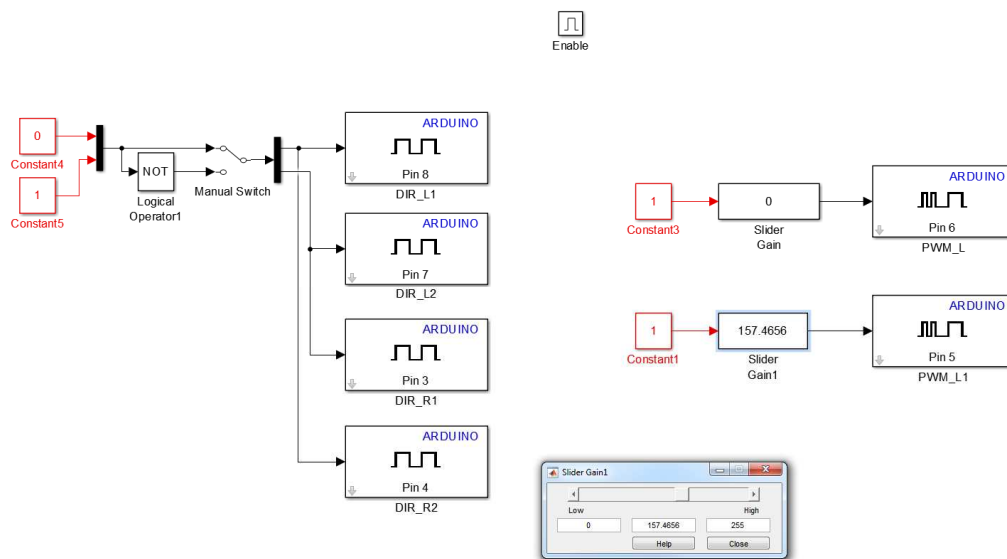

Figure 6: Motor control
- The rotational direction of the motor is configured via digital pins see Figure 6.